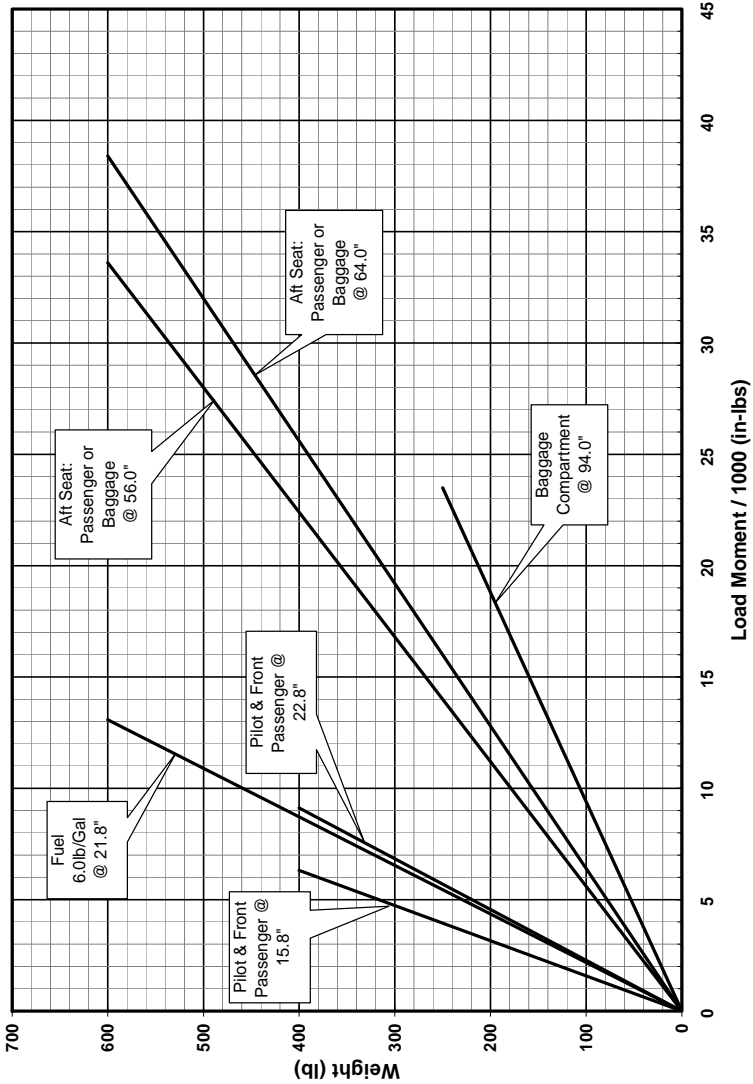
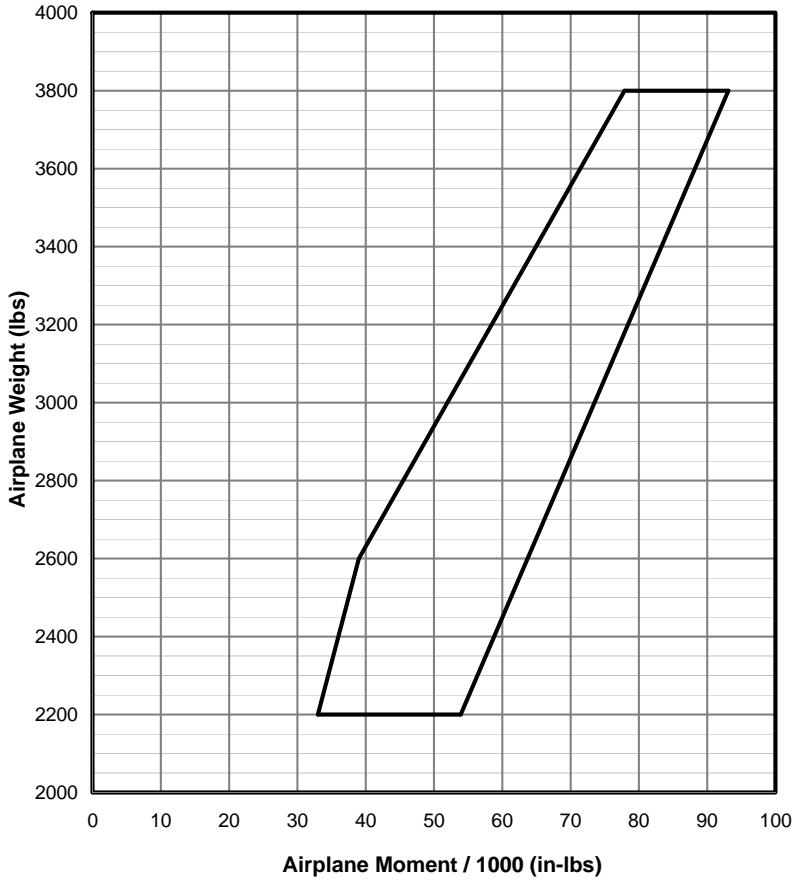
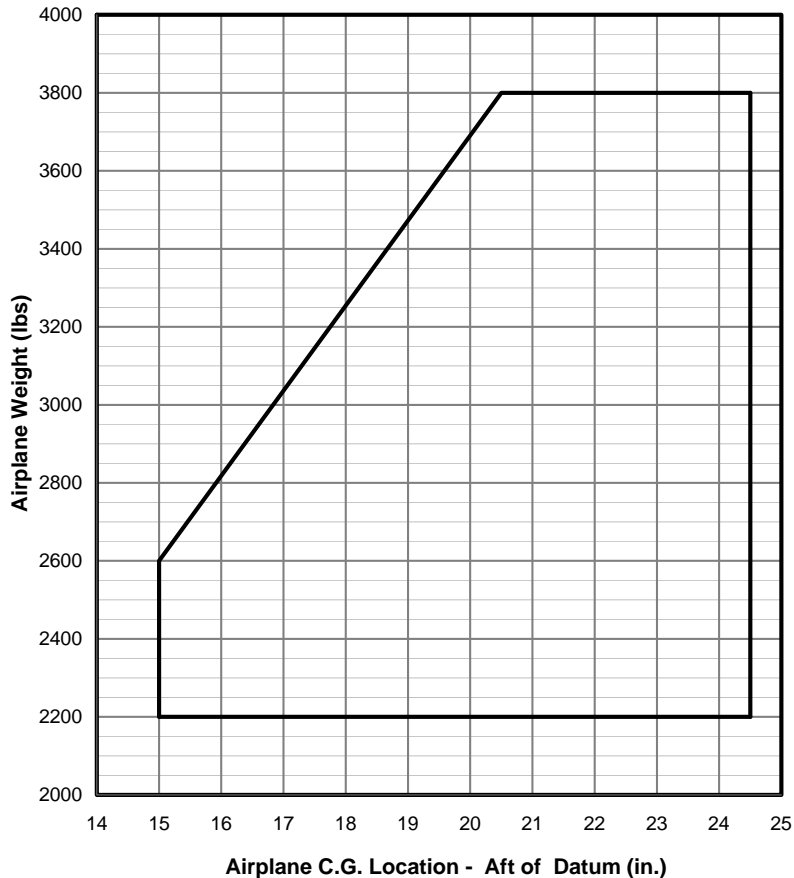

Figure 6-5 Loading Graph
Figure 6-6 Centre of Gravity Moment Envelope
Figure 6-7 Centre of Gravity Range Envelope
It is the responsibility of the pilot to ensure that the airplane is properly loaded and operated within the weight and center of gravity limits. The following information will enable you to operate your FBA-2C3 within these limits. To calculate the weight and balance for a particular loading use the Sample Weight and Balance Loading Form (Figure 6-4), Loading Graph (Figure 6-5), Centre of Gravity and Moment Envelopes (Figure 6-6) and Centre of Gravity Range Envelope (Figure 6-7) as follows:
2. Use the Loading Graph (Figure 6-5) to determine the moment/1000 for each item (pilot & co-pilot, passengers, fuel, and baggage); then list these on the loading form (Figure 6-4).
3. Sum the weights and moments/1000 (Item 9 in the Figure 6-4 Sample Weight and Balance Loading Form). Plot these values on the Centre of Gravity Moment Envelope (Figure 6-6) and on the Centre of Gravity Range Envelope (Figure 6-7) to determine whether the point falls within the envelope, and see if the loading is acceptable.
Note 2: The takeoff condition moment and CG must be within the limits shown in Figure 6-6 and Figure 6-7 at the takeoff weight condition.